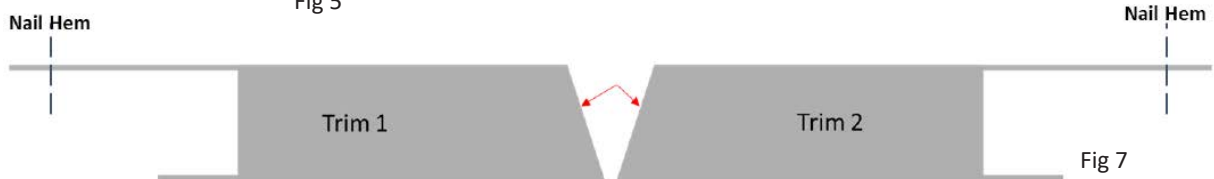

Fig 7
- Example: If the window or wall corner is 110°, then your saw angle cut for the trim is 36° (Fig 6) for each length of trim. Two (2) lengths needed per corner (Fig 7).
- Rip/cut along the length of the both casings and determined angle (Fig 7).